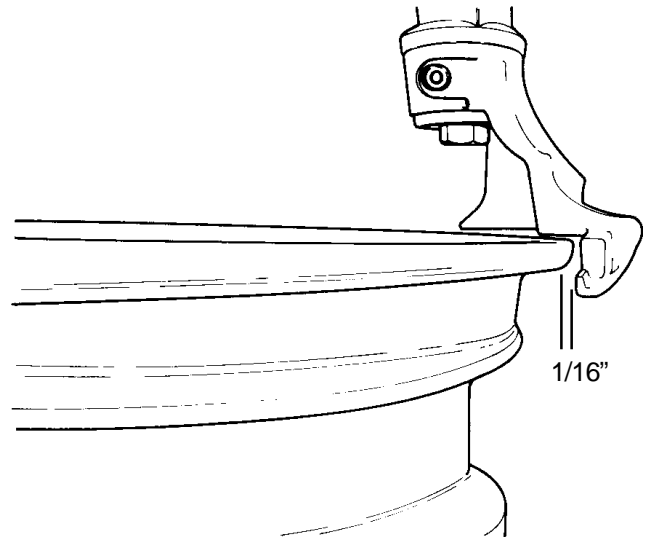

Fig.14
E. Gently position the mount/demount head in contact with rim edge, now manually push the lock lever up and lock it into place. The tool automatically moves vertically up and away from the rim edge. Turn the swing arm adjustment knob until the mount/demount head moves horizontally away from the rim flange by approximately 1/16" (2mm): this is necessary to avoid any rim contact during the changing process. (Fig.14).